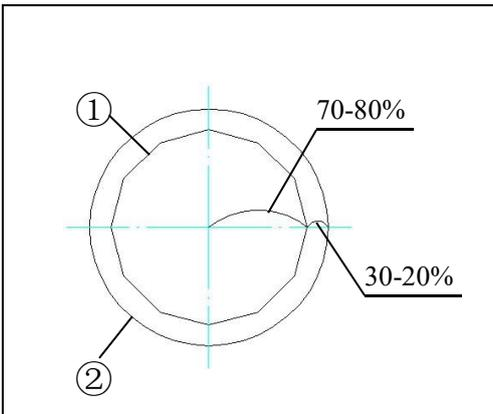

Fig 12
### 3.1.10 Using the aperture diaphragm (Fig 12)
- To recognize the aperture diaphragm, you could remove the eyepiece if necessary (You also could insert in the center telescope), then looked into the viewing tube, you might see a field of view like the Fig. 12 shows. The proportion could be changed by dialing the aperture adjustment lever according your need. (①is the image of the aperture diaphragm, ② is the edge of the objective)